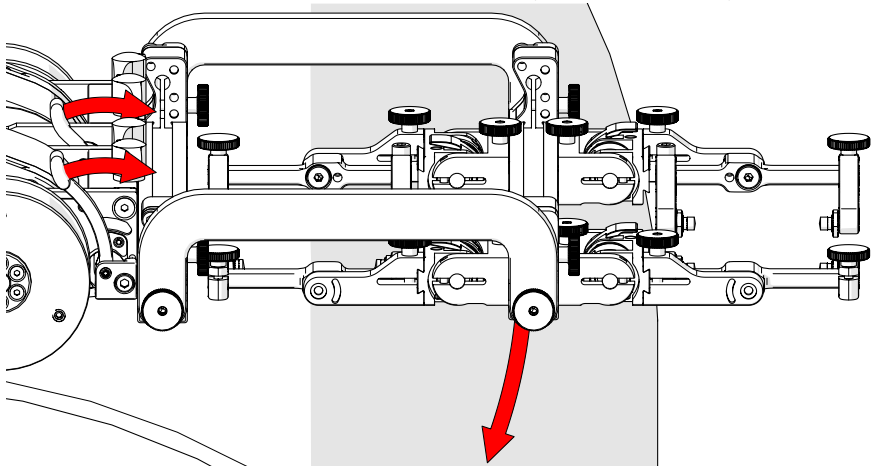
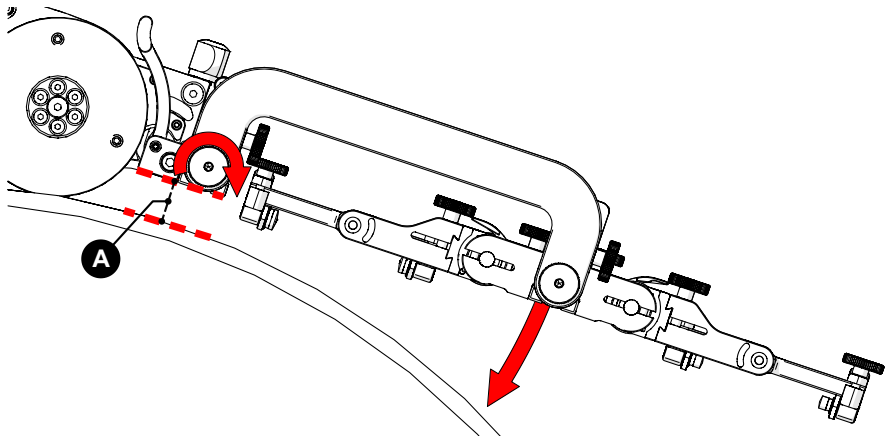
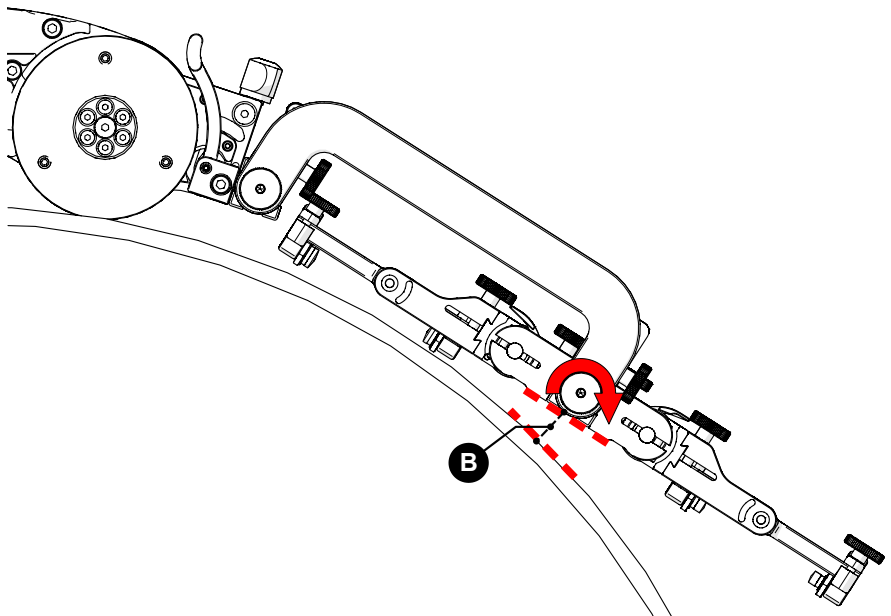

Fig. 241 - Align swivel mount with scan surface
Fig. 242 - Set rear rotational adjustment knob
Fig. 243 - Align probe holder tangent with scan surface
4. Release the two swivel mount levers (Fig. 241) to position the swivel mount parallel to the scan surface (Fig. 242). When alignment with scan surface is achieved, lock the crawler swivel mount levers.
5. Loosen the rear rotational adjustment knob to lower the front frame bar of the low profile frame towards the inspection surface (Fig. 242). Ensure gap **B** (Fig. 243) is no smaller than gap **A** (Fig. 242).
6. Loosen the front rotational adjustment knob (Fig. 243) to align the frame bar parallel with the scan surface (Fig. 243).